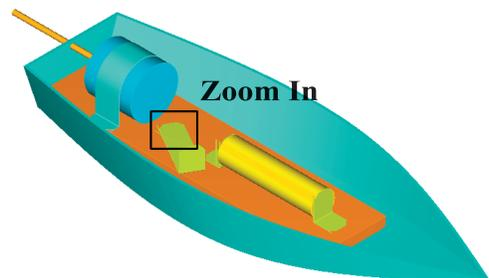

Fig. 52
Step 3. Zoom-in on the back end of the switch. Use **F1** and make a selection window around the back end of the switch, **Fig. 52**.